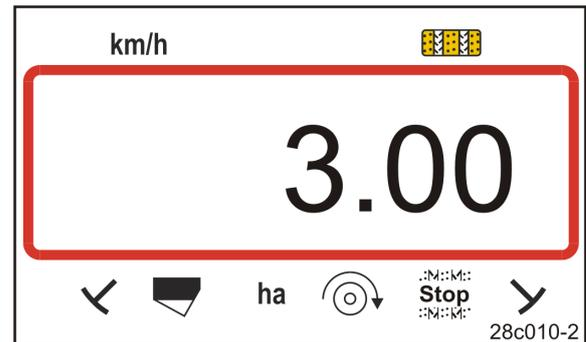

Fig. 21
- Display: Stored working width [m], e.g. 3.0 m (Fig. 21).